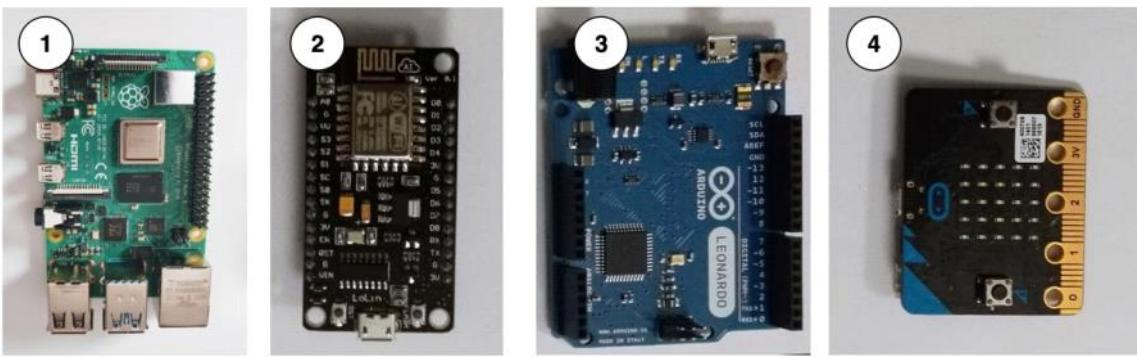

Figure 2.11 – A selection of controller modules: a Raspberry Pi, NodeMCU, Arduino, and micro:bit
*Figure 2.11* shows some of my favorite controllers. They can all be powered via a USB connection. All but the Raspberry Pi can also be programmed over a USB. They all have connectors for easy access to their I/O pins. For each of the controllers, let's see what they are, along with their pros and cons: